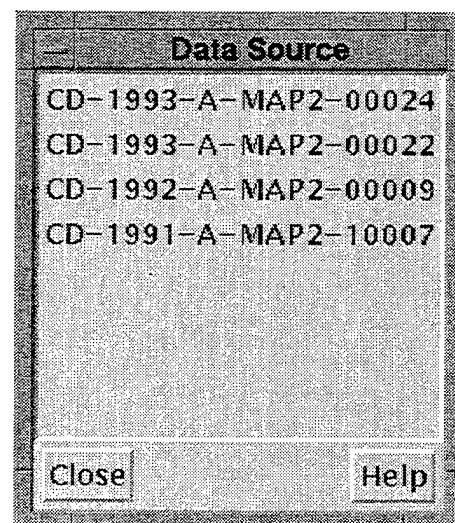

Fig. 72 — Data sources display
Lists all logged data sources for the current composition, including DTED (for MPS compositions only), CAC and scanned chart data (Fig. 72). As the user defines new coverages, this display will reflect any new logged sources that are applicable.
- (4) Save the composition:
- (5) Reopen the same composition. (As a security measure, MMC requires that the user open a final composition and *not modify it* prior to building the AODI):
- (6) Build the AODI and MPS images (MMC automatically builds both):
- MMC will pop up a **Data Sources Window** (Fig. 72) listing which data sources are needed {CD-1995-C-MAP3-10001 and CD-1996-B-MAP3-2003}.